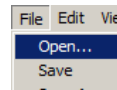

Fig. 1: Open STE-files
5. **Open actuator parameter file (*.ste) of the original actuator in COM-SIPOS**, see Fig. 1 and 2.